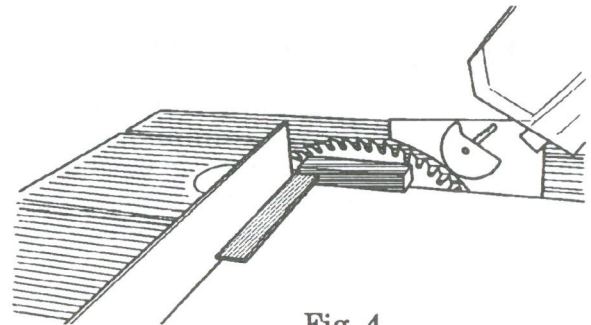

Fig. 4
11. Place a precision square against both the fence and the side of the saw blade. See Fig. 4.